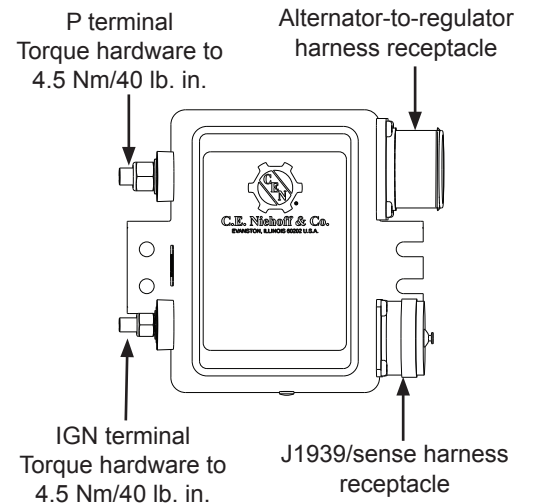

Figure 6: Regulator Connections
3. Connect alternator-to-regulator harness to 8-pin receptacle on regulator. See Figure 6 for receptacle location.
4. Refer to Figure 6 and connect regulator terminals as required by vehicle:
5. If using a J1939/sense harness, plug harness into J1939 receptacle on regulator. See Figure 6 for receptacle location. Harness sold separately².